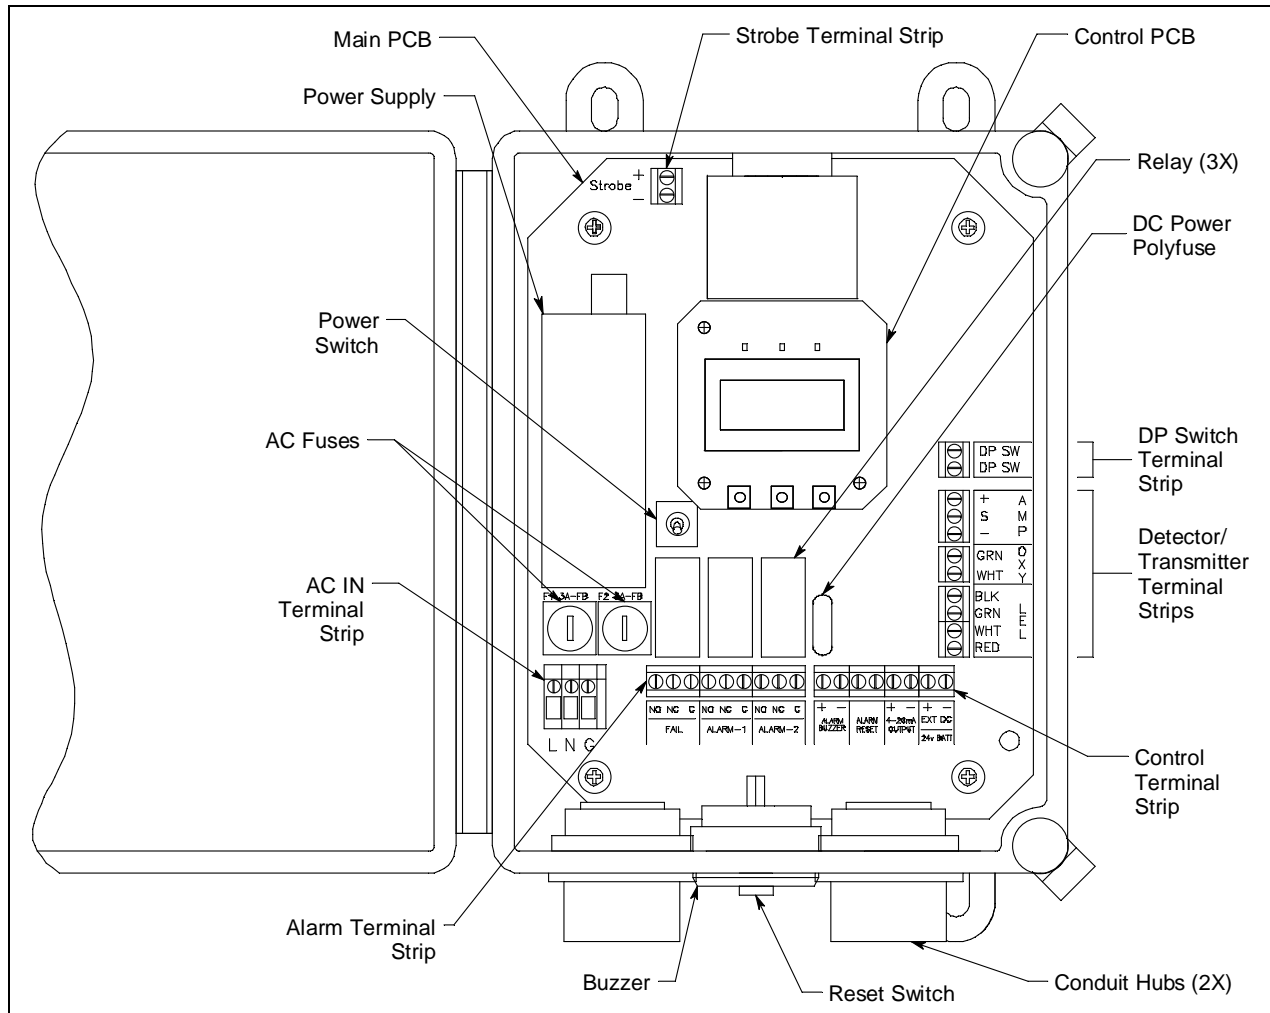

Figure 2: Beacon 110 Component Location
- **Alarm Terminal Strip.** The 9-point alarm terminal strip is located along the bottom edge of the main circuit board to the right of the AC In Terminal Strip (see Figure 2). It facilitates wiring external alarm devices (horn, strobe, etc.) to the alarm relay contacts and includes common (C), normally closed (NC) and normally open (NO) terminals for fail, alarm 1, and alarm 2.
- **Controller Terminal Strip.** The 8-point controller terminal strip is located along the bottom edge of the main circuit board to the right of the alarm terminal strip (see Figure 2). The controller terminal strip facilitates various internal and external wiring connections. Table 3 lists the function of each terminal.
- **Detector/Transmitter Terminal Strips.** Three adjacent terminal strips are located along the right side of the main circuit board above the controller terminal strip (see Figure 2). These three terminal strips facilitate wiring connections to a detector or a 4 - 20 mA transmitter. The lower 4-point terminal strip is labelled **LEL** and is used to wire a combustible detector. The middle 2-point terminal strip is labelled **Oxy** and is used to wire an oxygen detector. The top 3-point terminal strip is labelled **AMP** and is used to wire 4 - 20 mA transmitters or direct connect preamp type detectors. Only one detector head at a time may be wired to the Beacon 110. The infrared methane detector head is factory wired to the **LEL** terminal strip.
The power switch is located to the right of the power supply and above the relays (see Figure 2). The power switch turns the incoming AC power source on and off at the Beacon 110. When the switch is up, the power switch is on.
The Beacon 110 includes three active status LEDs that are located above the display (see Figure 2). Two LEDs, labelled RX and TX, to the right of those described below, are not active.